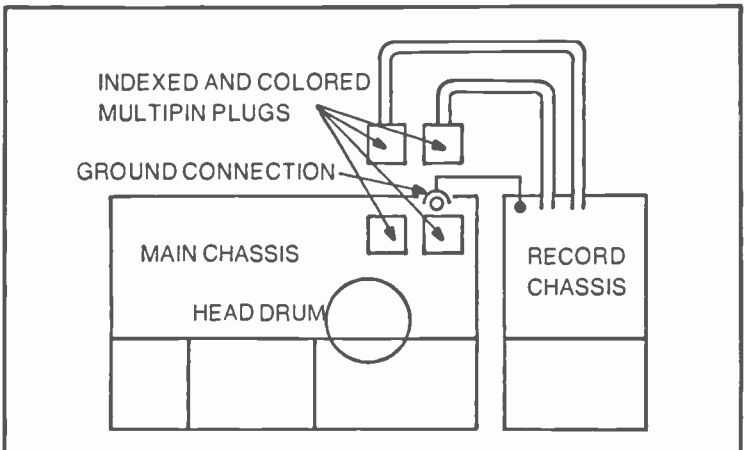

Fig. 16-3. Chassis interconnect plugs.
- Remove the plastic connecting plugs which connect the two sections. Also remove any plugs near the front of the machine and the ground lead near the plastic plugs. The plugs are either numbered or color coded to facilitate replacement. They also are indexed. See Fig. 16-3.